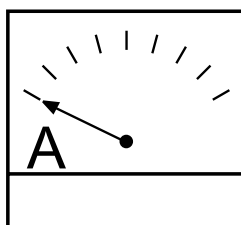

Figure 30. Ammeter (No Load)
- The ammeter (Figure 30) will indicate **zero amps** with no load applied. When a load is applied, the ammeter will indicate the amount of current that the load is drawing from the generator.